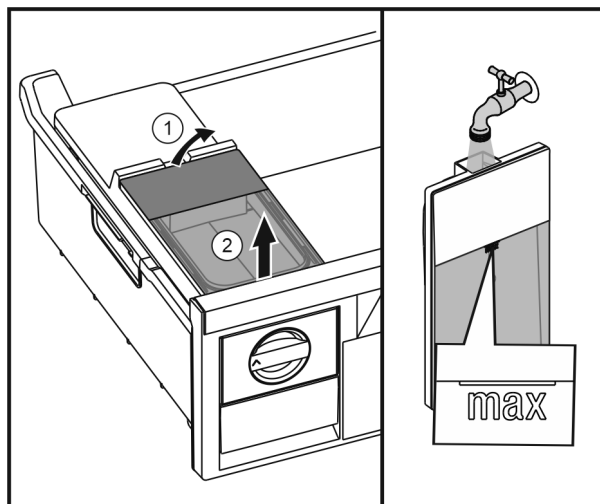

Fig. 30
- ▶ Lift up the water tank at the rear Fig. 30 (1) and take it out upwards Fig. 30 (2).